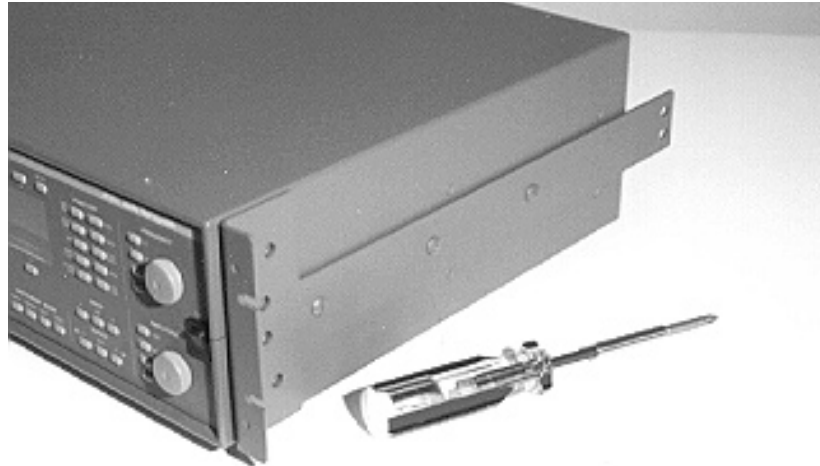

*Figure B-1. Handle parts after removal*
1. Remove the handle, handle brackets, two bracket spacers, and the trim panel from the right side of the instrument (see Figure B-1).